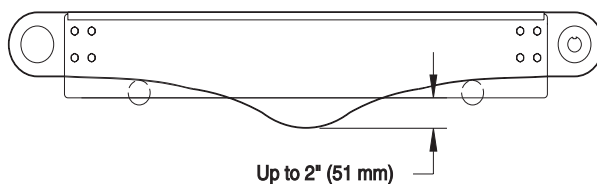

Figure 20
1. Check belt sag by measuring from the bottom of conveyor frame (Figure 20). Belt sag should not exceed 2" (51 mm).